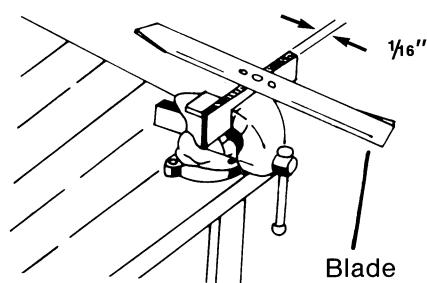

FIG. 16
- After sharpening, check blade for balance by supporting blade as shown in (Fig. 16) using the center hole as a guide. File or grind metal from heavy end of blade until the blade balances.